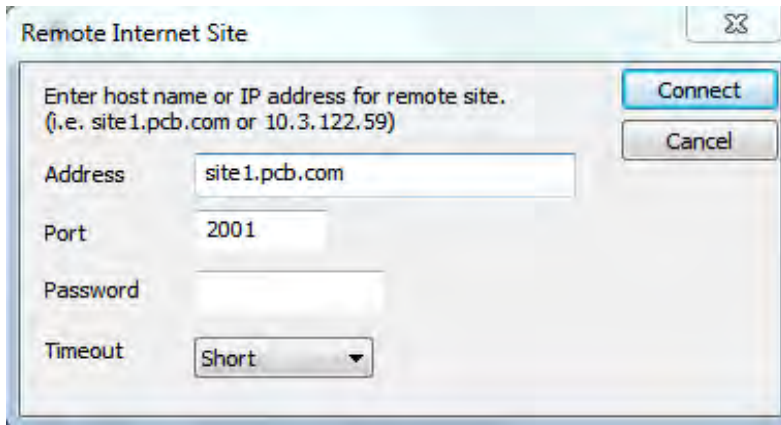

FIGURE 3-3 Remote Internet Site Connection Box using Remote Site Host Name
Step 1 In SLM Utility-G3, click **Connection > Remote > Internet**. This will bring up the Remote Internet Site connection box. (See FIGURE 3-3.)